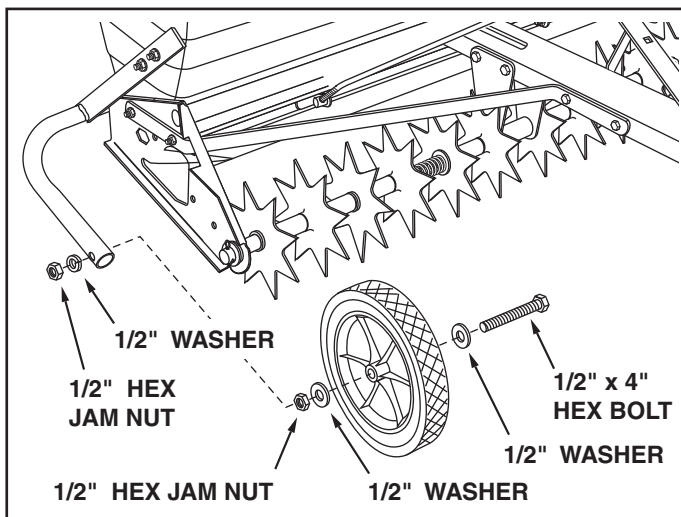

FIGURE 24
38. Install each wheel onto the lift tube assembly using a 1/2" x 4" hex bolt, two 1/2" washers, a 1/2" lock washer and two 1/2" hex jam nuts. See figure 24.